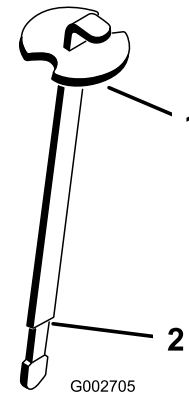

Figure 16
3. Remove dipstick from filler neck and wipe it with a clean rag. Insert dipstick into filler neck; then remove it and check level of fluid. Fluid level should be up to mark (necked down area) on dipstick (Figure 16).